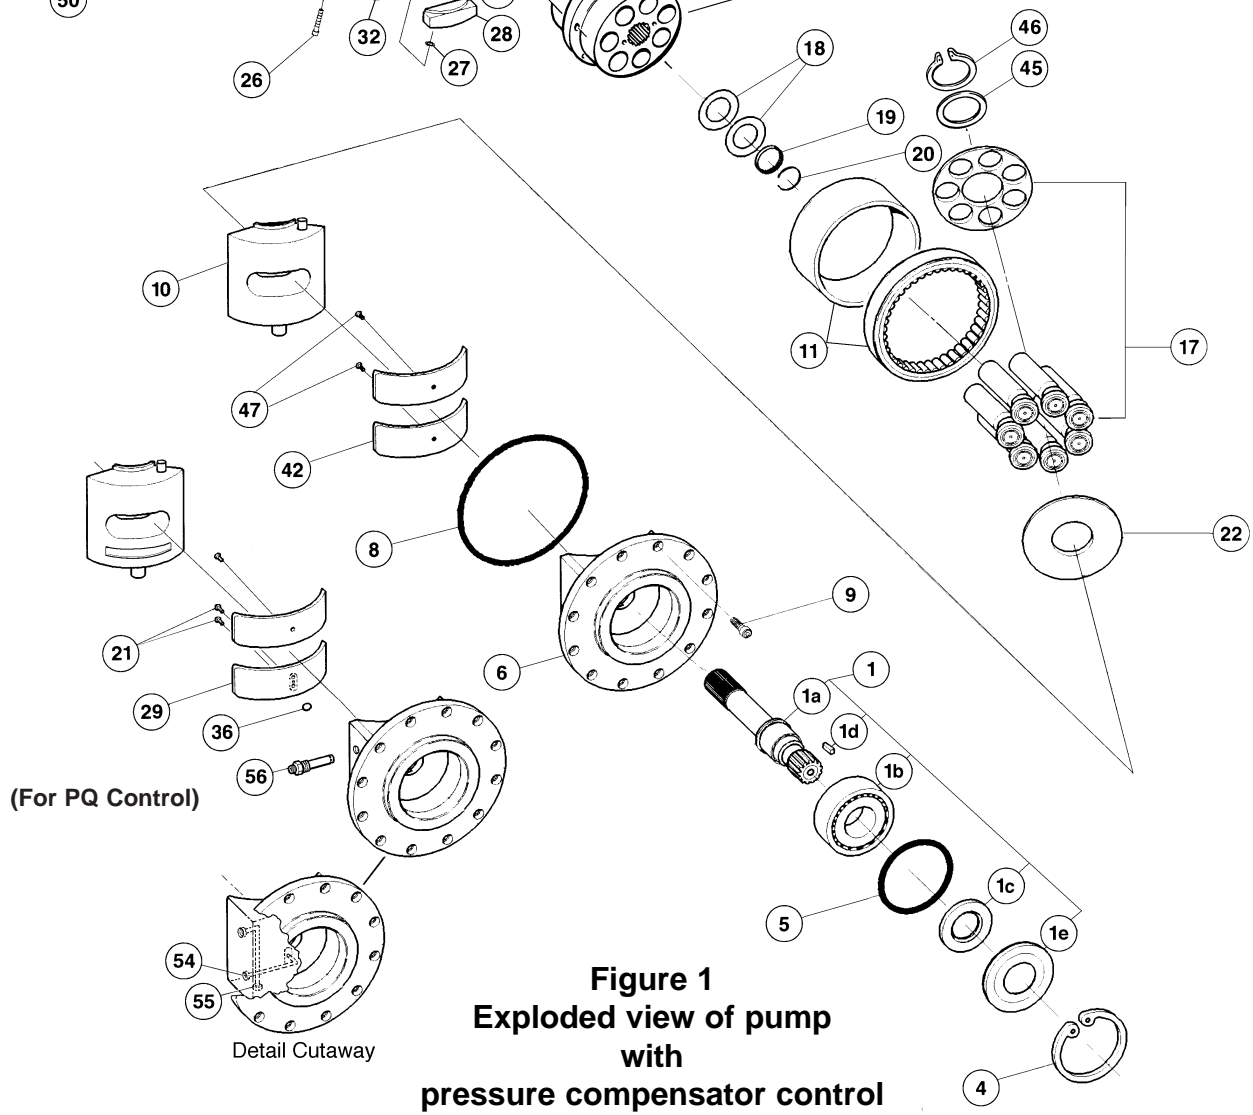

Figure 1
*Refer to illustration, see figure 1 and 2*
1. Remove plug (49) and drain oil from pump. Position pump with shaft up.
2. Wind maximum volume screw ref. see item (50), CW so that piston (44) bottoms out. This positions the cam at approximately zero stroke allowing removal of the drive shaft. *Reference item 1 page 27.*
3. Remove socket head cap screws (9). If disassembling PQ Control version, remove tubing and pass thru fitting (56).